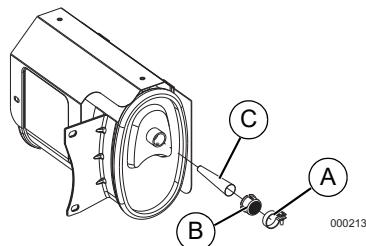

Figure 4-5. Spark Arrestor Screen
1. Loosen clamp (A) and remove screw. See **Figure 4-5**.
2. Inspect screen (B) and replace if torn, perforated or otherwise damaged. If screen is